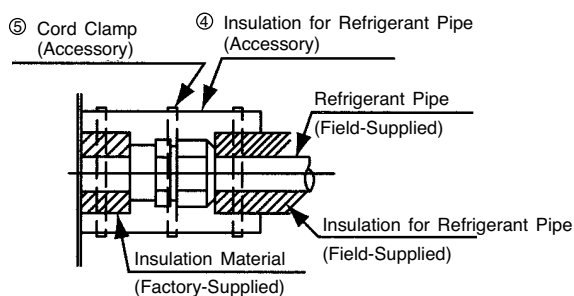

Fig. 2-3 Insulation on Pipes
(4) Insulate the refrigerant pipes as shown in Fig. 2-3